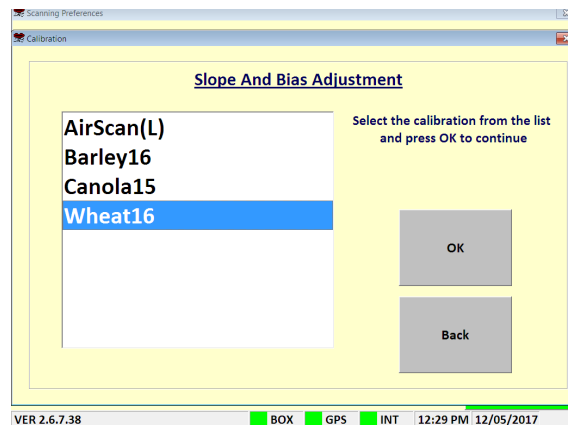

Figure 4.9. Select Calibration Window .
4. Highlight the value to adjust. figure 4.9